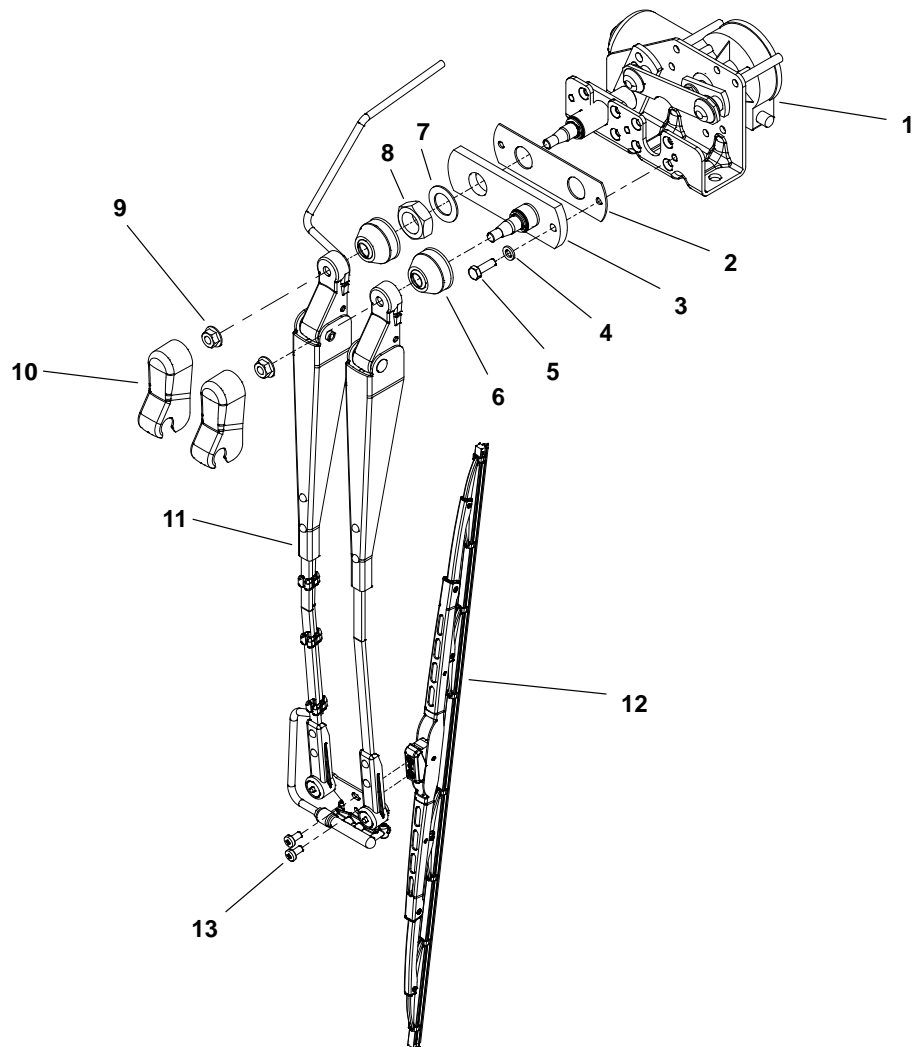

Figure 9
Disassembly (Fig. 9)
3. Remove windshield wiper components as needed using Figure 9 as a guide.
Assembly (Fig. 9)
1. Assemble windshield wiper components using Figure 9 as a guide.